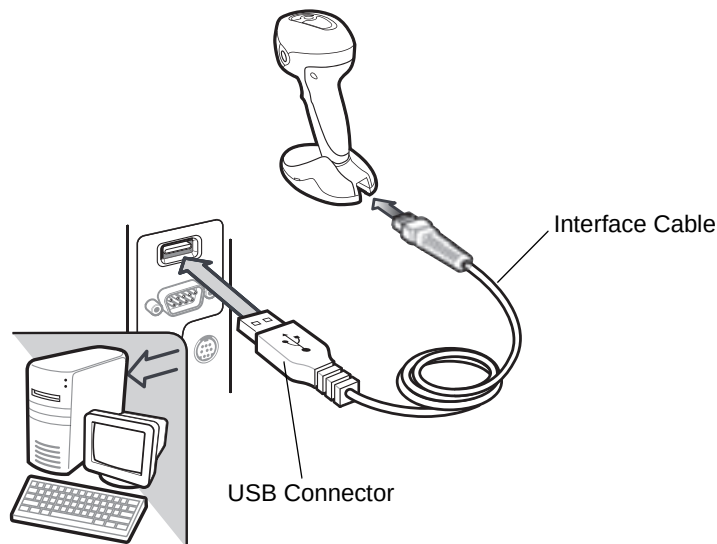

Figure 6-1 USB Connection
- ✓ **NOTE** Interface cables vary depending on configuration. The connectors illustrated in Figure 6-1 are examples only. The connectors may be different than those illustrated, but the steps to connect the digital scanner are the same.